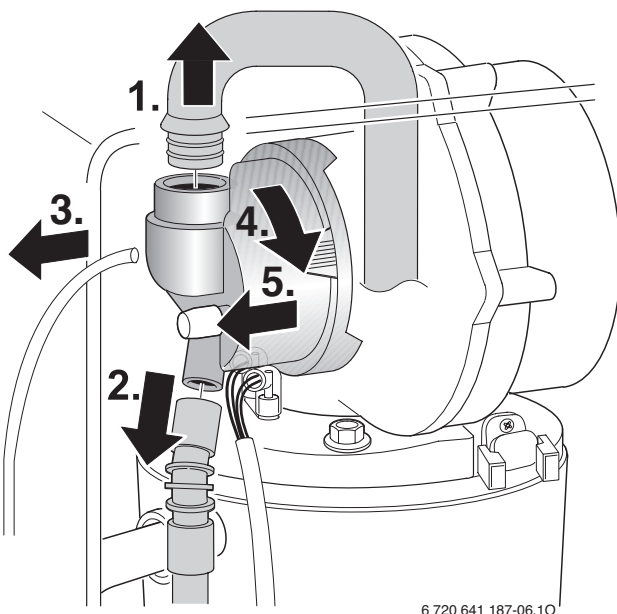

Fig. 56 Removing the mixer unit
2. Disconnect gas pipe from mixer unit, → Fig. 56.
- ▶ Remove diaphragm from mixer unit [1] as shown in Fig. 56.